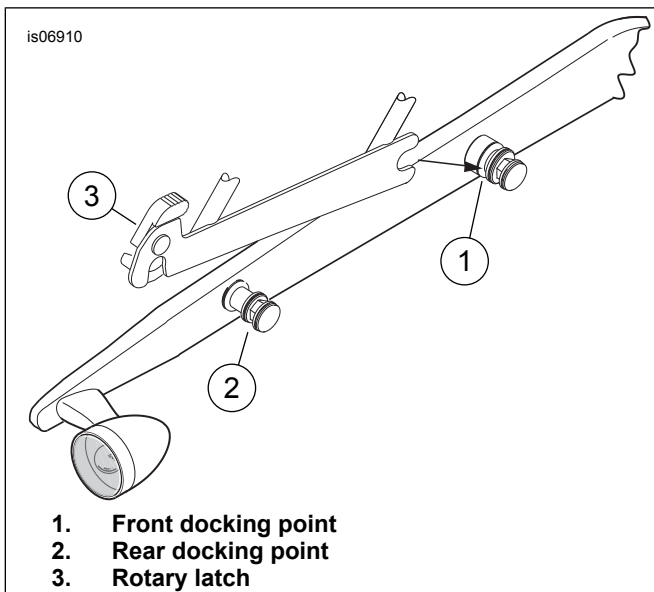

Figure 11. Push front notches down into front docking points on fender.
1. See Figure 11. While standing behind the motorcycle, push the front notches of the passenger handrail down into the front docking points as shown.